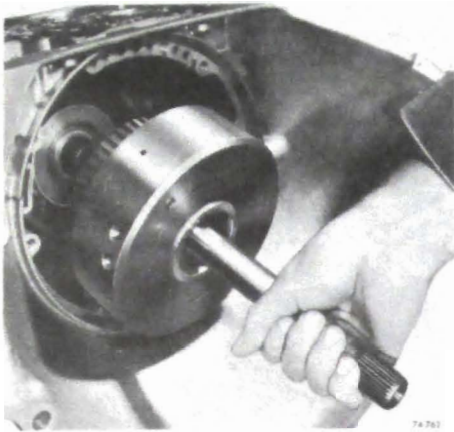

Figure 76-762
18. Install the forward clutch and turbine shaft assembly, see Figure 76-762, indexing the direct clutch hub so end of the mainshaft will bottom on end of the forward clutch hub. When forward clutch is seated it will be approximately 1-1/4" from pump face in case.